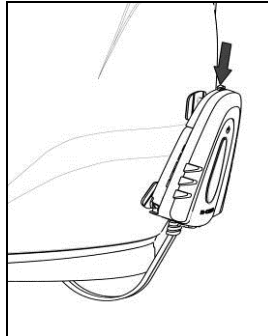

Fig. 12
- Close the safety block by pressing it downward, as shown in Fig. 12;